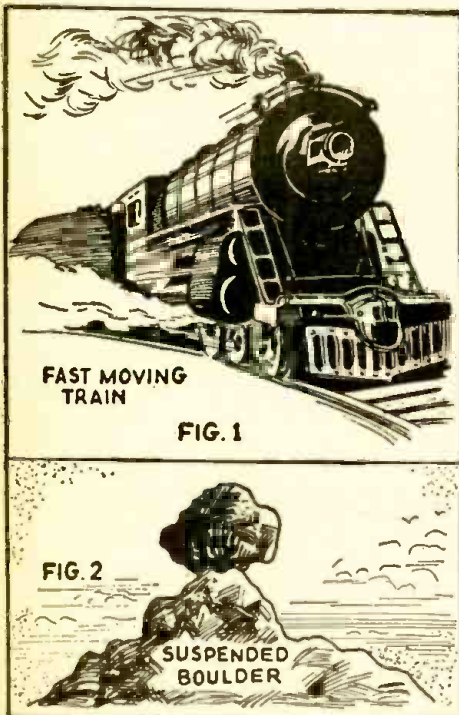

Fig. 1—Example of "kinetic" energy; Fig. 2—"Potential" energy.
It is a well-known law of physics that energy can neither be created nor destroyed. It can, however, be transferred from one form to another. There are two kinds of energy—kinetic energy, which is *energy in motion*, as the force of a vehicle in motion—and potential energy, or the *energy at rest*, such as a large rock suspended at a height which becomes very powerful if released. See Figs. 1 and 2.
which is caused by the passage of current through the granules. It has a high maintenance factor and must be handled with care. On the other hand it has the advantage of a very good power output level of -30 db., together with low output impedance, making it possible to have the microphone some distance from the amplifier. See Fig. 1, A and B.
In Fig. 1 is shown the typical signal circuit arrangement of an A.C.-D.C. T.R.F. receiver. There are several peculiarities which should be noted; these are: (1) the chassis may not be an electrical part of the circuit, in which case the ground symbols simply indicate that the parts so marked are connected together; (2) the screen-grid of